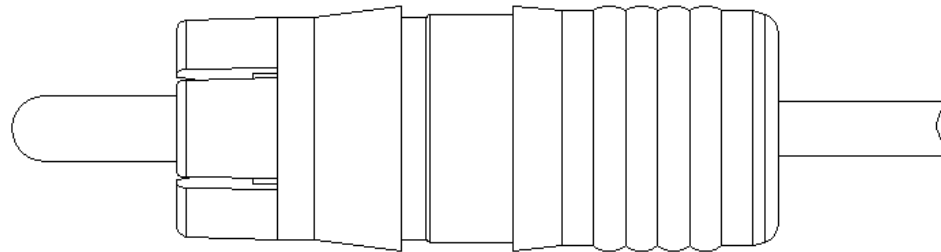

FIGURE 6
6) Crimp the connector as shown in figure 6.